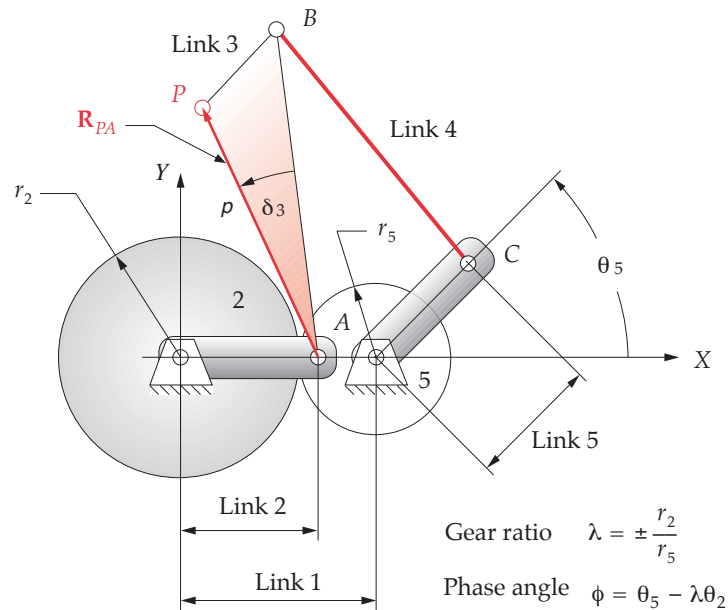

FIGURE A-11
Because this program deals with the geared fivebar mechanism (GFBM), it requires more input data than for the fourbar mechanism. Five link lengths must be supplied as shown in Figure A-11: driver crank (link 2), first coupler (link 3), second coupler (link
4), driven crank (link 5), and ground (link 1). Two other linkage parameters must be defined as input, namely, the gear ratio ( $\lambda$ ) and the phase angle ( $\phi$ ). The phase angle is defined as the angle of link 5 when link 2 is at  $0^\circ$  as shown in Figure A-11. Note that the gear ratio as shown in the figure is a *negative ratio* because the external gears turn in opposite directions. The addition of an idler gear will create a positive gear ratio. It is also worth noting that the gear ratios defined in the *ZNH Atlas of Geared Fivebar Linkages\** are the reciprocal of the gear ratio in program FIVEBAR. So, when transferring data from this atlas to the program, the gear ratio must be reciprocated in order to get the same linkage as shown in the atlas. Otherwise the coupler curve will be a mirror image of the one in the atlas.